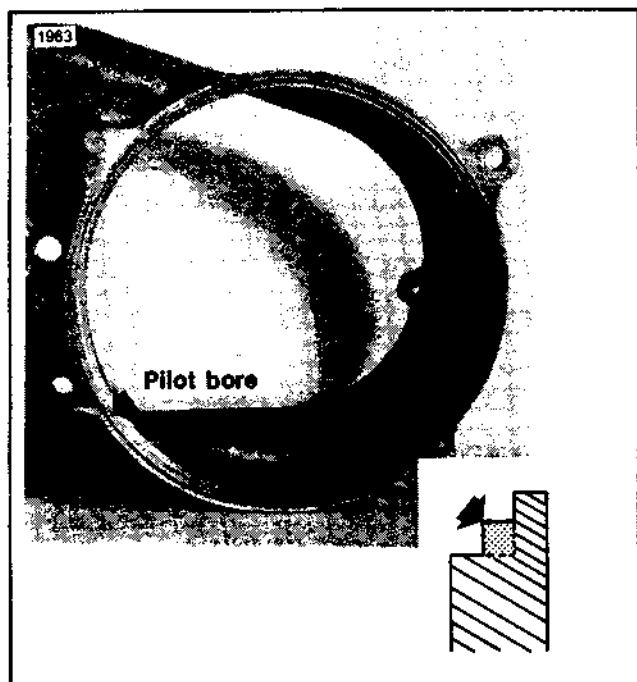

Figure 3. Modifying Inner Primary Housing
3. See Figure 3. Using a suitable machine tool, remove step in pilot bore to allow clearance for belt adjustment.